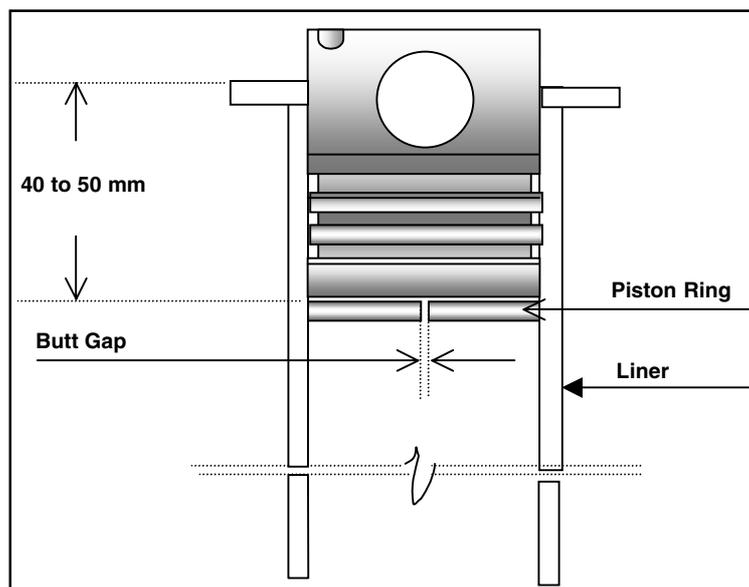

Fig.9.38
- Insert one piston ring at a time in the liner. To set the ring squarely inside the liner push it down of liner with a piston (As shown in Fig.9.38)